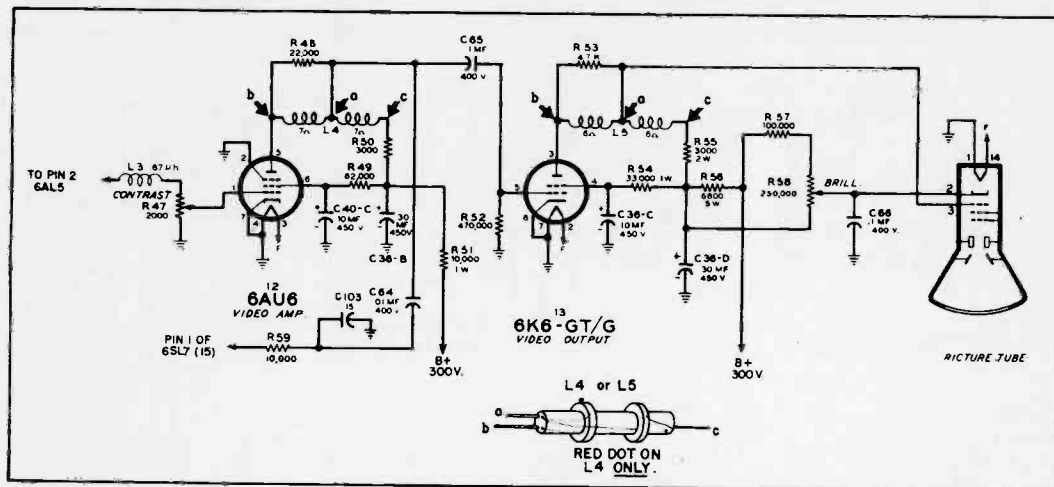

Figure 11. Video Amplifier
The video amplifier (see figure 11) uses a type 6AU6 tube (12) biased only by the negative video detector currents appearing in contrast control R47. The video amplifier supplies signal to both the sync amplifier tube (15) and the video output tube (13). The video detector biases the video amplifier at proper contrast level so as to clip off noise peaks appearing in the sync.